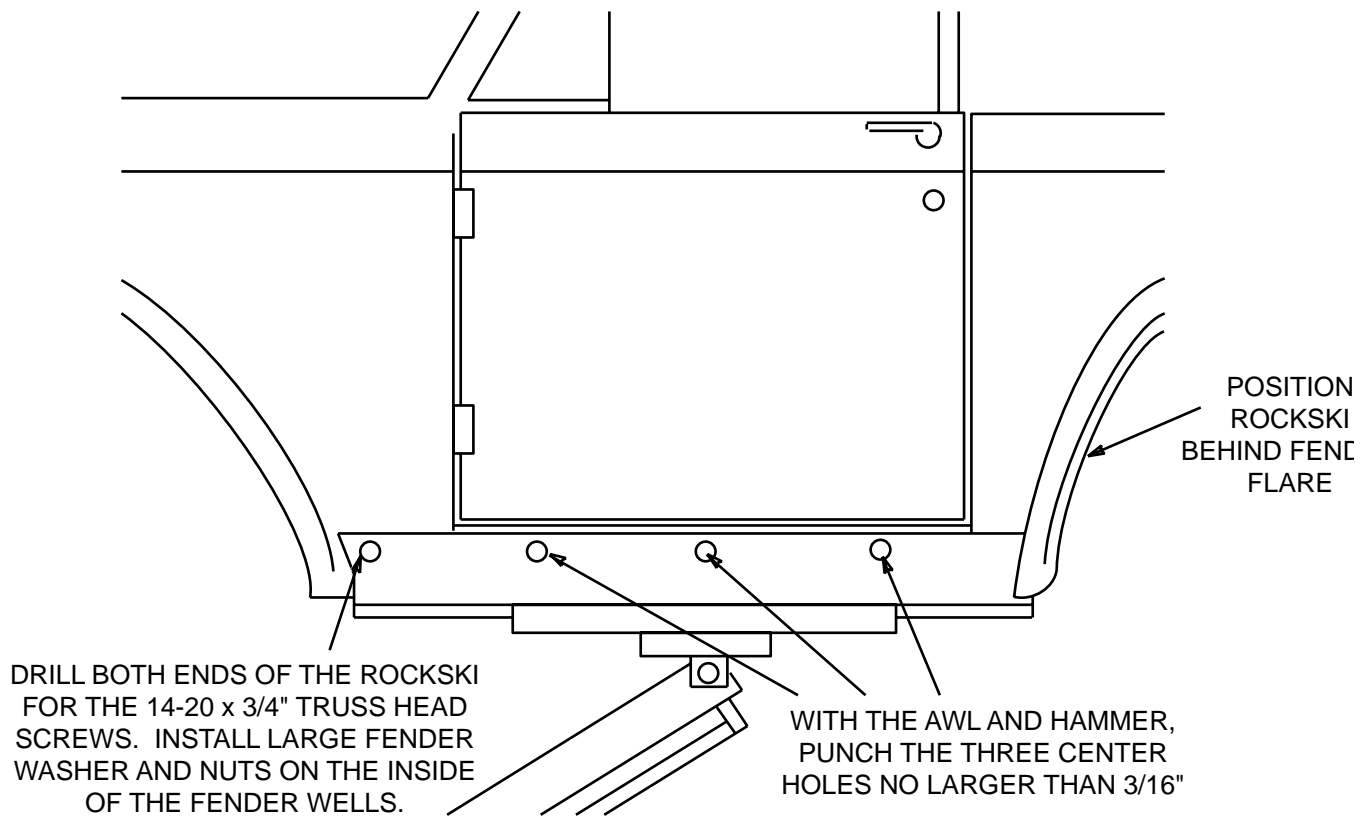

Figure 5
6. Using the 5/16" drill bit, mark (DO NOT drill thru!) the centers of each of the five holes. Drill the front and rear holes only using the 5/16" drill (see Figure 5).